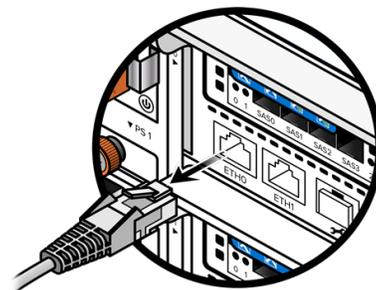

Figure 13-8. Disconnecting 1-GbE Cables
1. Attach a temporary label to the 1-GbE cables in port **ETH0** and **ETH1**. See Figure 13-8.